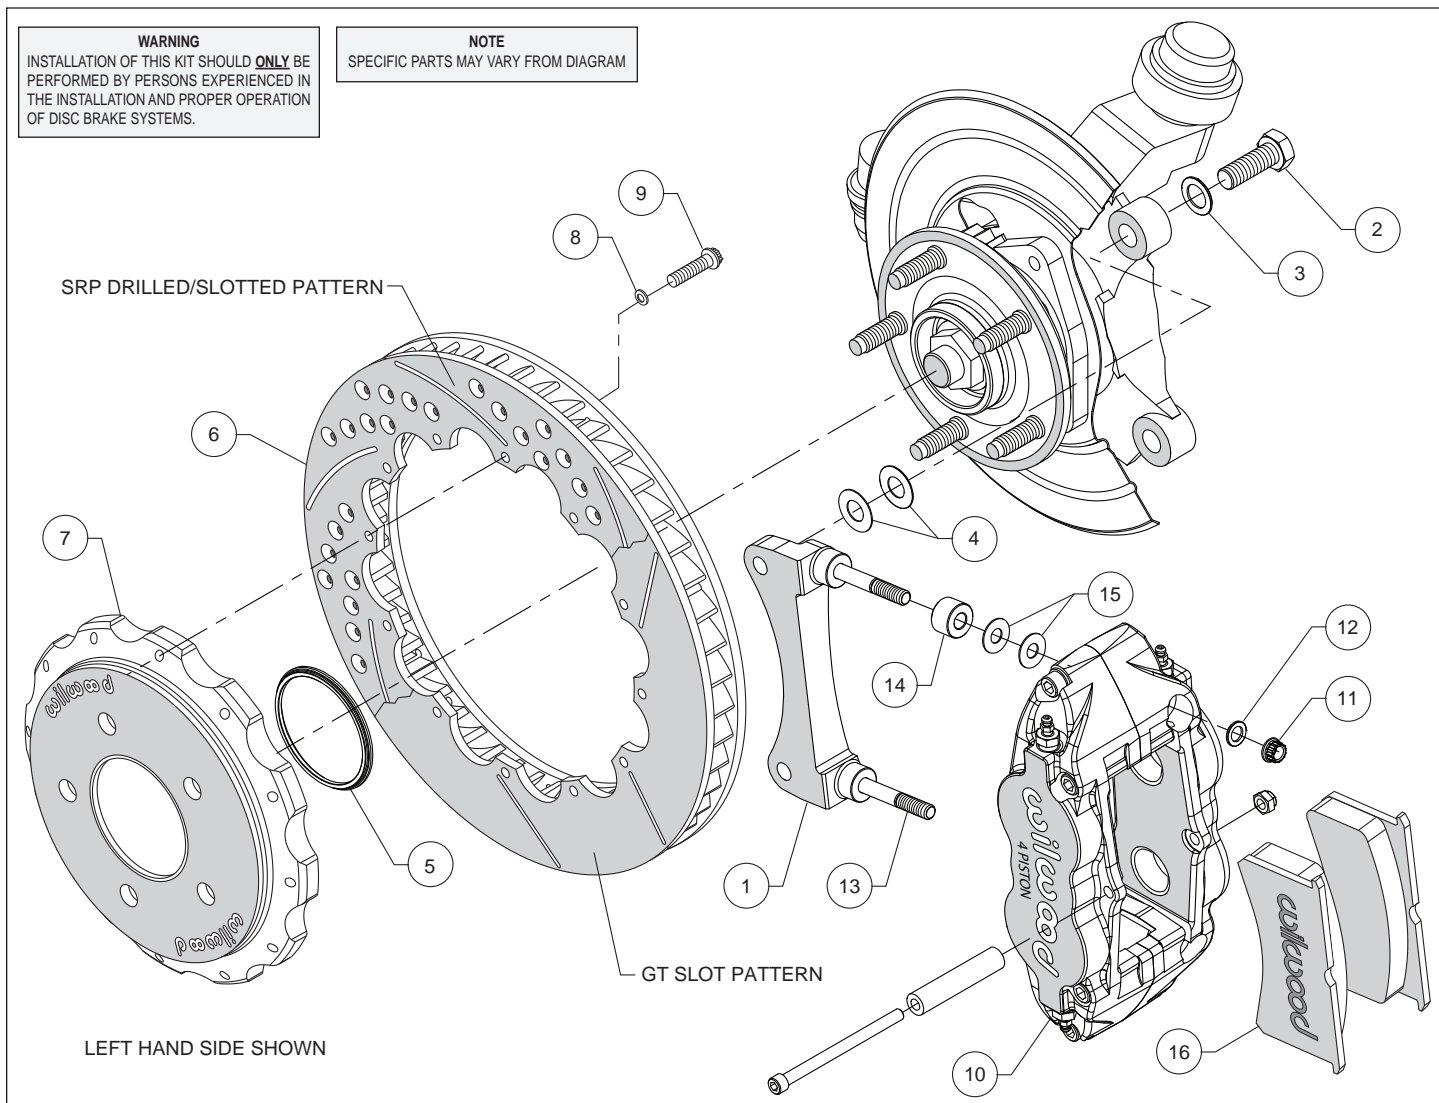
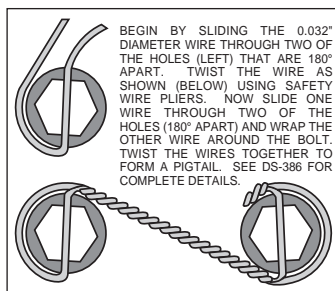

Figure 1. Typical Installation Configuration
Figure 3. Safety Wire Diagram
**Assembly Instructions** (numbers in parenthesis refer to the parts list and Figure 1 on the preceding pages):
- The caliper mount bracket (1) should initially be installed with clean, dry threads on the mounting bolts. Orient the bracket as shown in Figure 1 and Photo 1 and install using mount bolts (2) and washers (3). Initially place two .029" thick shims (4) on each bolt between the bracket and upright, Figure 1. Temporarily tighten the mounting bolts. **NOTE:** *The bracket must fit squarely against the mount bosses on the upright.* Inspect for interference from casting irregularities, machining ridges, burrs, etc. Later, after the caliper alignment has been checked, the mount bolts will be secured using red *Loctite*® 271.
- Orient the rotor (6) and the hat (7) as shown in Figure 1 and Photo 2. Attach rotor to hat using bolts (9) and washers (8). Using an alternating sequence, apply red *Loctite*® 271 to the threads, and torque to 155 **in-lbs**. For an added measure of security, the bolts may be safety wired using standard 0.032 inch diameter stainless steel safety wire as shown in Figure 3. Please refer to Wilwood's data sheet DS-386 (available at [www.wilwood.com/Pdf/DataSheets/ds386.pdf](http://www.wilwood.com/Pdf/DataSheets/ds386.pdf)) for complete safety wire installation instructions.
- Lubricate the caliper mounting studs (13) with lightweight oil. Initially place two .035" thick shims (15) and one spacer (14) on each stud as shown in Figure 1 and Photo 7. Mount the caliper (10) onto the bracket (1) using lock nuts (11) and washers (12), Figure 1. Temporarily tighten the lock nuts and view the rotor through the top opening of the caliper. The rotor should be centered in the caliper, Photo 8. If not, adjust by adding or subtracting shims (4) between the bracket and the upright. Always use the same amount of shims on each of the two mounting bolts. Once the caliper alignment is correct, remove the bracket mounting bolts one at a time, apply red *Loctite*® 271 to the threads, and torque to 75 ft-lb.